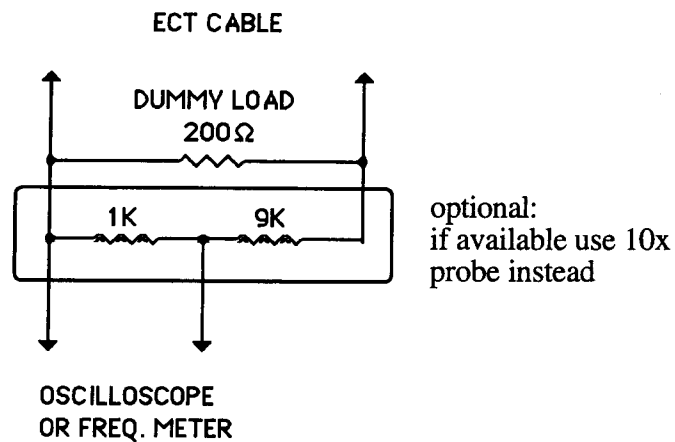

fig. 3.2
- 3.2 Connect Oscilloscope across the dummy load. Be sure the scope can measure up to 500 volts. If not, construct a high impedance divider such as in fig. 3.2.
Connect a frequency counter to the dummy load divider as in fig. 3.2. Set up proper triggering. Make sure the overshoot does not double trigger the counter. Set the counter to period measure. Set PERCENT ENERGY dial to 100% and press TREAT button. The reading should be 14.28 msec $\pm 5\%$ which corresponds to 70 Hz. Set PERCENT ENERGY dial to 50% and press TREAT button. The reading should be 20.00 msec $\pm 5\%$ which corresponds to 50 Hz. Set PERCENT ENERGY dial to 20% and press TREAT button. The reading should be 33.33 msec $\pm 5\%$ which corresponds to 30 Hz.